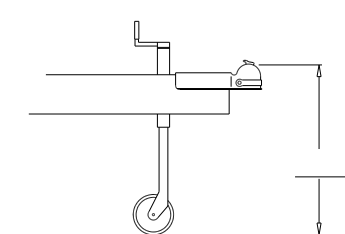

Fig. 1
2. Level the trailer and measure and record the distance from the ground to the top of the coupler. (Fig.1).
- Rivet ⑩ and 7 spacer washers ⑨ are supplied in order to gain correct downward angle of spring bars. For an initial fitment, try 4 spacer washers for top mounted couplers and 3 spacer washers for bottom mounted couplers. Insert rivet ⑩ and depending on angle or slope of bars that must be gained, use the least amount of washers ⑨ necessary in order to establish correct angle. (See Fig. 1, 2, and 3 below.)